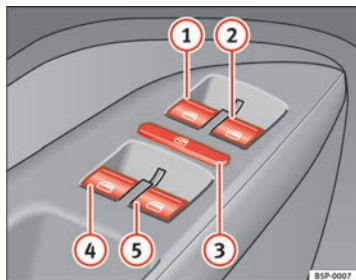

Fig. 67 Detail of the driver door: controls for the front and rear windows
The buttons ⇒ page 112, fig. 67 ① and ② have two levels for opening the window and two for closing it. This makes it easier to open and close windows to the desired position.